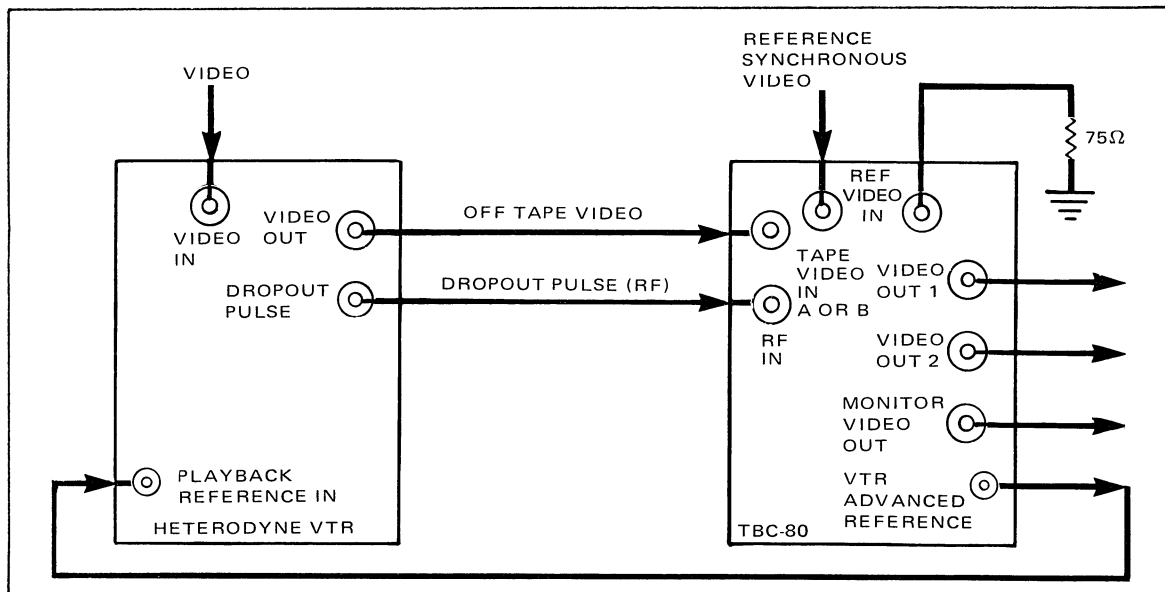

Figure 2-5. TBC-80 One-Wire Heterodyne Interconnections
STEP 2 Interconnect TBC-80 with VTR as shown in Figure 2-5.